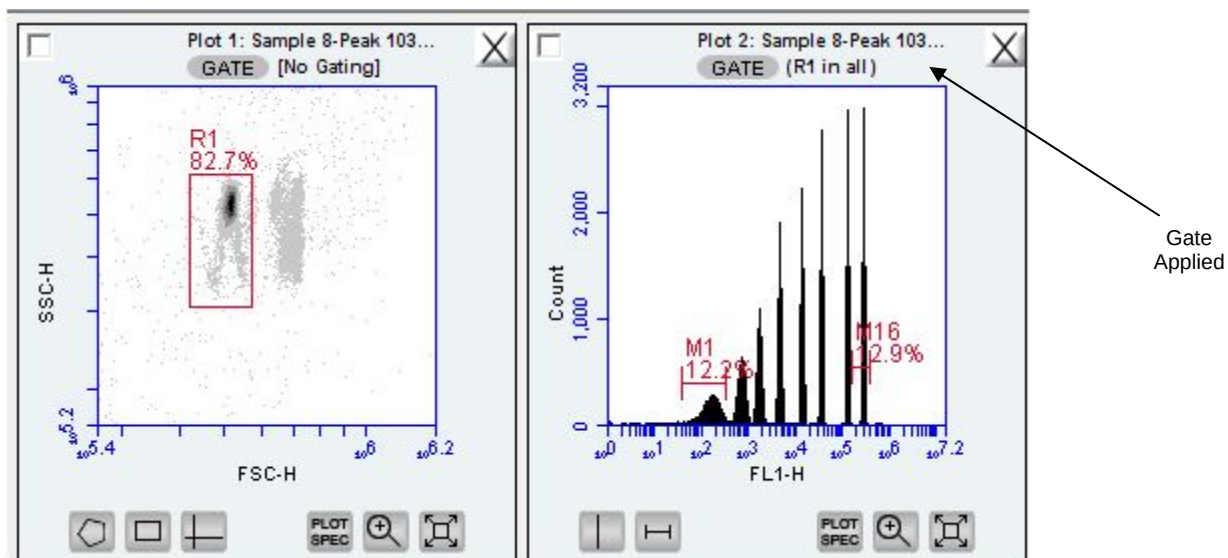

Figure 1-4 Proper position of R1 on Plot 1 and Gate selection for Plot 2
2. On the first FSC-H vs. SSC-H plot (scatter plot) in the bead file, adjust the pre-drawn region R1 to encompass the main population by clicking on the region (it will have thicker lines when selected) and dragging it so it looks like Plot 1 in Figure 1-4. This should contain 75-85% of all events in R1. There is usually a "shadow" population slightly higher in FSC-H than the main cluster of beads; this is normal for these particular beads (bead doublets or clumps). Do not include this group in R1.